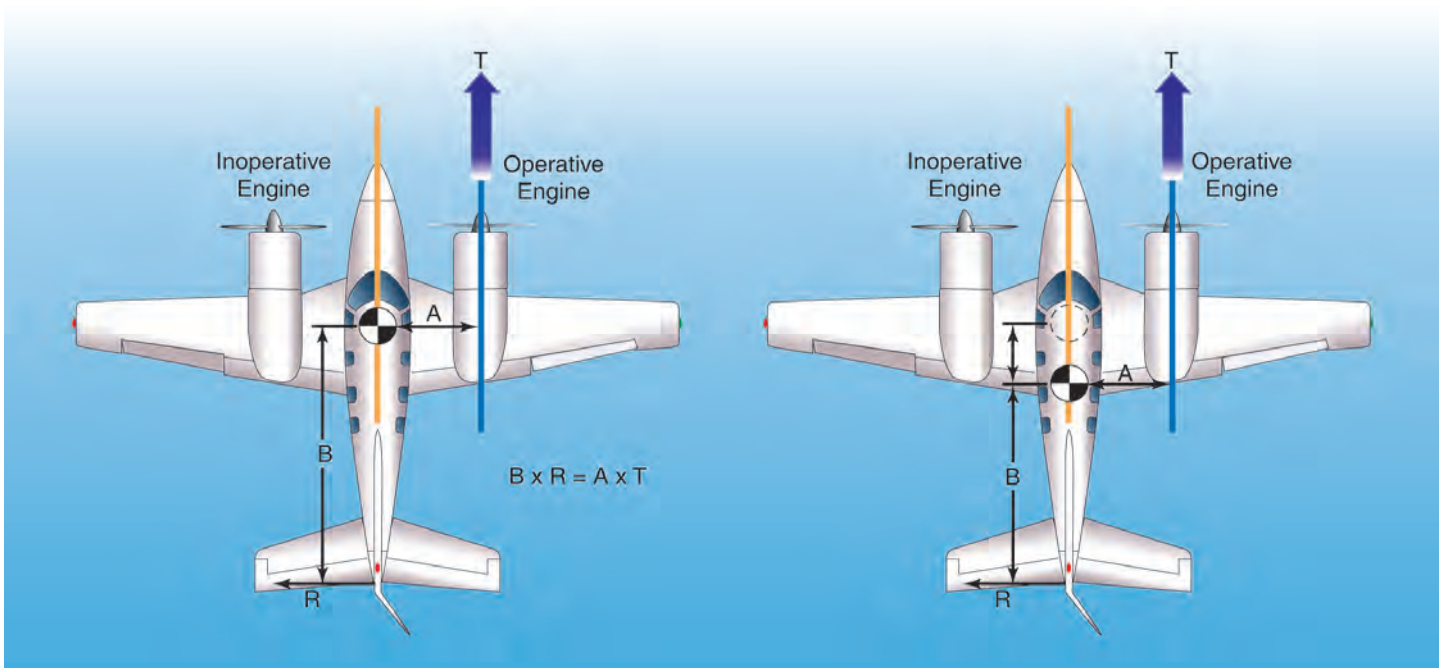

Figure 13-13. Effect of CG location on yaw.
- **Most unfavorable weight and center-of-gravity position (section 23.149(b)).**  $V_{MC}$  increases as the center-of-gravity (CG) is moved aft. The moment arm of the rudder is reduced, and therefore its effectivity is reduced, as the CG is moved aft. For a typical light twin, the aft-most CG limit is the most unfavorable CG position. Historically, 14 CFR part 23 calls for  $V_{MC}$  to be determined at the most unfavorable weight. For twins certificated under CAR 3 or early 14 CFR part 23, the weight at which  $V_{MC}$  was determined was not specified.  $V_{MC}$  increases as weight is reduced. [Figure 13-13]